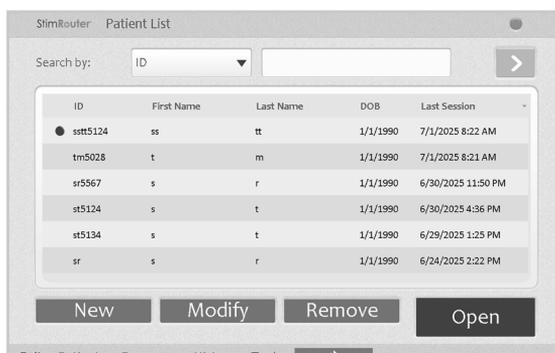

Figure 8-4: Opening a Patient Record
1. From the Patient List, select a patient and press the "Open" button. See Figure 8-4.